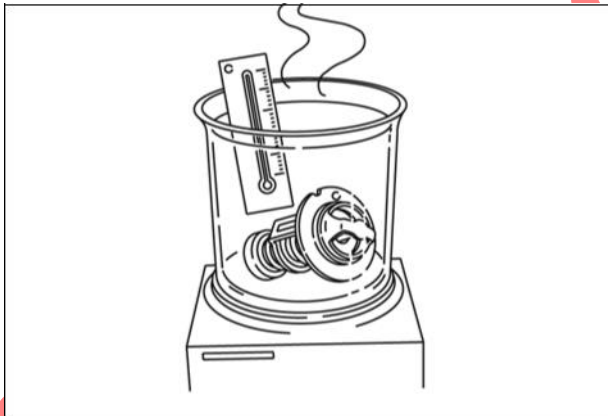

Figure 4
2. Immerse thermostat in water and heat water gradually (Figure 4).